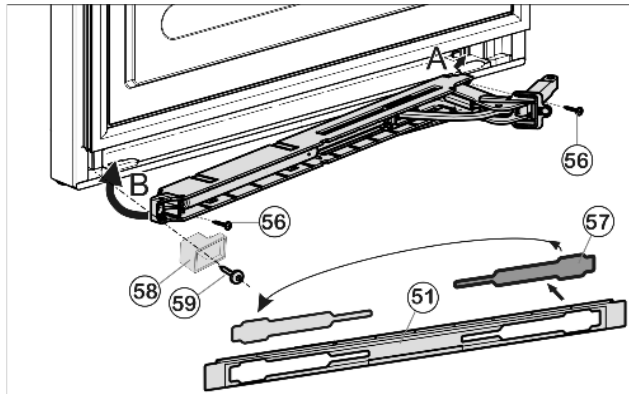

Fig. 34
- ▶ Loosen cover Fig. 34 (57) from the panel Fig. 34 (51) and insert on the other side.
- ▶ With the hinge of the soft stop unit facing the door hinge side, engage the soft stop unit (A) and swivel inwards (B).
- ▶ Tighten soft stop unit (2 x Torx 15) Fig. 34 (56).
- ▶ Screw on spacer Fig. 34 (58) .